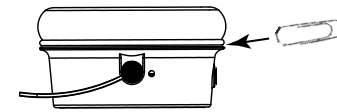

Figure 12
2. Using a Paper Clip, place the edge of the clip into the ridge located between the Ear Cup and the rolled edge of the Ear Pad. Refer to figure 12.